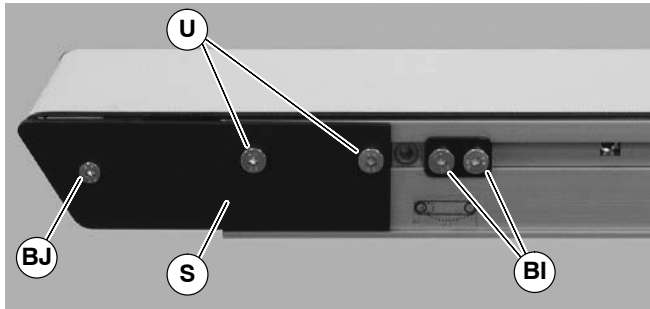

Figure 41
1. On both sides of conveyor, use a 4 mm hex-key wrench to loosen cam fastening screws (BI of Figure 41) and slide cam assemblies toward the center of the conveyor.
5. After replacing bearings, re-install head plate (S of Figure 41). Use a 3 mm hex-key wrench to tighten one (1) fastening screw (BL) to 3.4 Nm. Leave two (2) fastening screws (U) loose for belt tensioning.